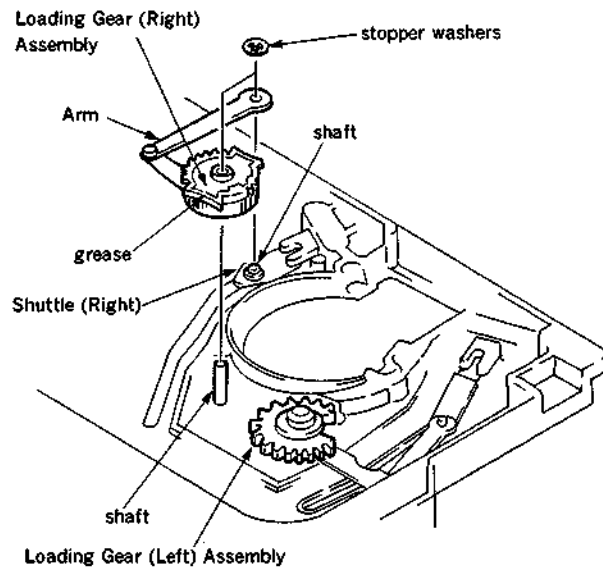

Fig. 2
- ① Align the mark on the loading gear (left) with the center point between two teeth on the loading gear (right), then install the gears on the shaft of the chassis and the shaft of the shuttle (right). (Fig. 2, 3)
- ② Smear a small amount of Sony grease to the part of the loading gear (right) ass'y indicated in the figure. (Fig. 2)
- ③ Align the engagement phases of the mode gear ass'y and the drive gear ass'y, then install the gear ass'ys, referring to sub-section 4-20 and 4-21.